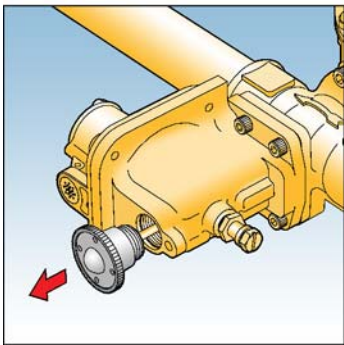

Fig. 8
17. Re-cock OPSS device by unscrewing reset spindle end cap and firmly pull. Hold in this position until the outlet pipework is fully pressurised, then release reset spindle end cap gently. Re-screw reset spindle end cap into body. See Fig. 8.
25. Re-cock UPSS device by unscrewing reset spindle end cap and firmly pull. Hold in this position until the outlet pipework is fully pressurised, then release reset spindle end cap gently. Re-screw reset spindle end cap into body. See Fig. 8.